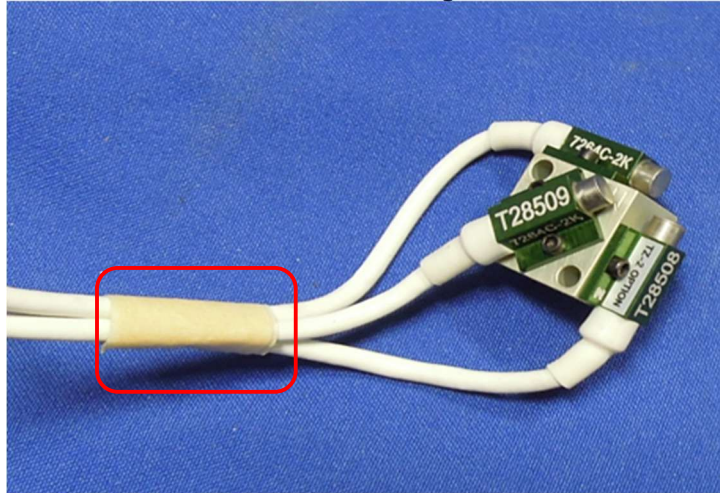

Figure 8-48. Attach accelerometers to block and strain relieve accelerometer wires
- 8.3.18 Mount the X, Y, and Z accelerometers to the Tri-Pack Block (SA572-S80M) block using two M1.4 X 0.3 X 3 SHCS per accelerometer (Figure 8-48). Strain relieve the three accelerometer wires together.